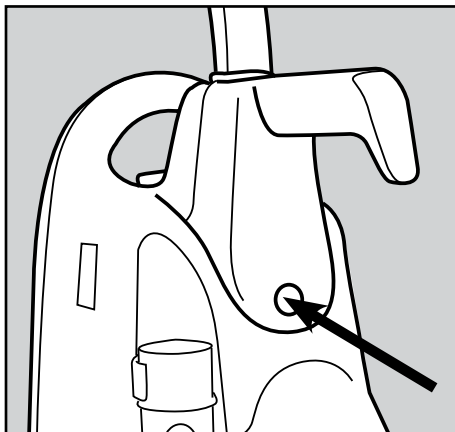

Fig. 2
- Insert the handle screw and tighten securely (Fig. 2).